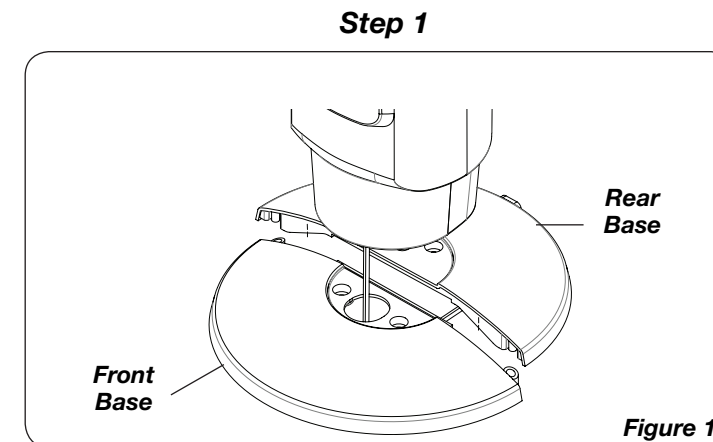

Figure 1
2. Collect the 2 Support Bases and assemble them by interlocking the Front Base into the Rear Base (Figure 1).